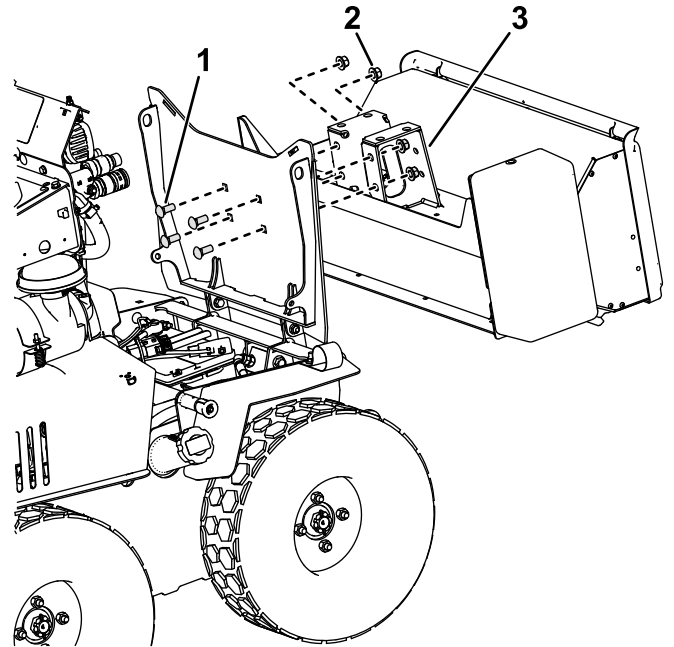

Figure 15
3. Install the spreader to the battery cover using 4 carriage bolts (1/2 x 1-1/4 inch) and 4 locknuts (1/2 inch) as shown in Figure 15.